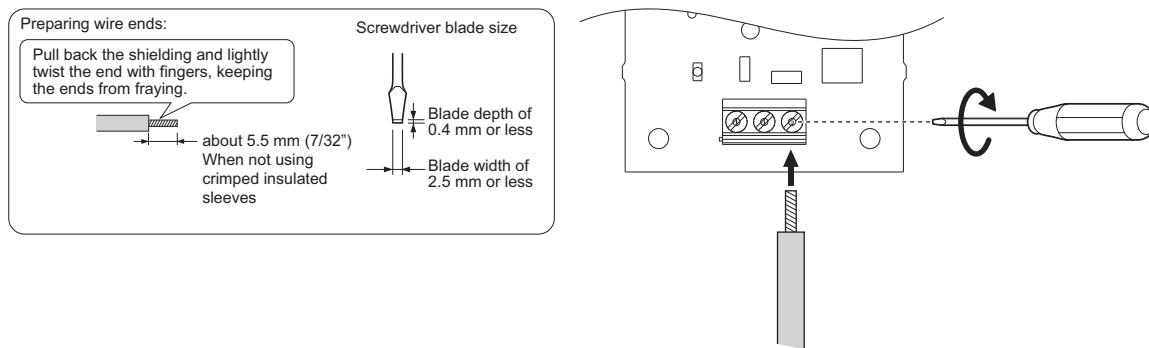

Figure 3.56 Wire the Option Plug
2. Use a flat-blade screwdriver to loosen the screws on the terminal block TB1, connect wiring to the 24, 0, and FE terminals as shown in Figure 3.56, then tighten the terminal screws to hold wiring in place. Refer to Table 3.30 to confirm that the proper tightening torque is applied to each terminal. Take particular precaution to ensure that each wire is properly connected and wire insulation is not accidentally pinched into electrical terminals.